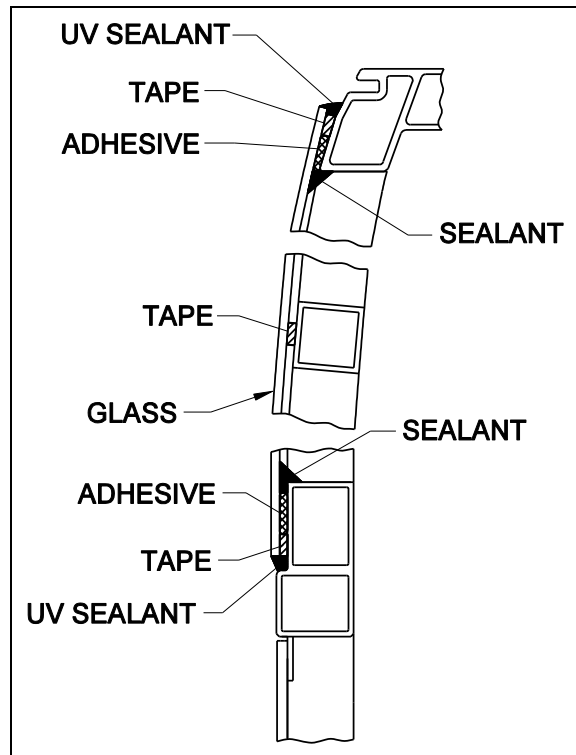

FIGURE 48 : WINDOWS ABOVE SIDE PANELS
Refer to procedures described in Prevest maintenance manual. Refer to figure 48 for tape, sealant and adhesive position.
2. Apply appropriate double face self adhesive tape on the slide-out structure (figure 48).